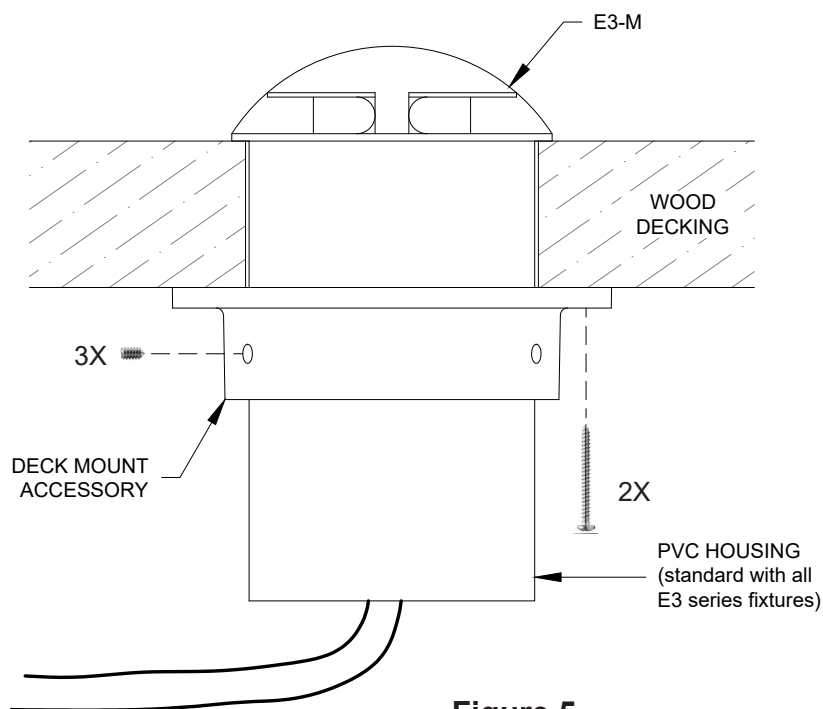

Figure 5
2. Using the Housing as a guide, locate and secure the Deck Mount (DM) to the back side of the mounting surface with the two included screws. Evenly tighten the three set screws with a 5/64" hex wrench against the Housing until secure. (Figure 5) Construction adhesive may be used between the mounting surface and Housing for additional stability and water-tightness.
6. Feed wires into Housing and slide the Faceplate/Cylinder assembly in until the Faceplate bottoms out on the mounting surface, being sure to orient the Faceplate to produce the desired effect (Figure 5).